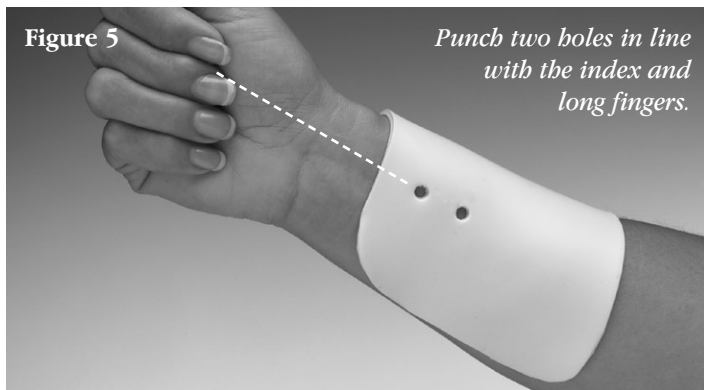

Figure 5
- In the proximal area of the forearm piece, punch two small holes directly in line with the index and long fingers when the wrist is in neutral. (Figure 5)